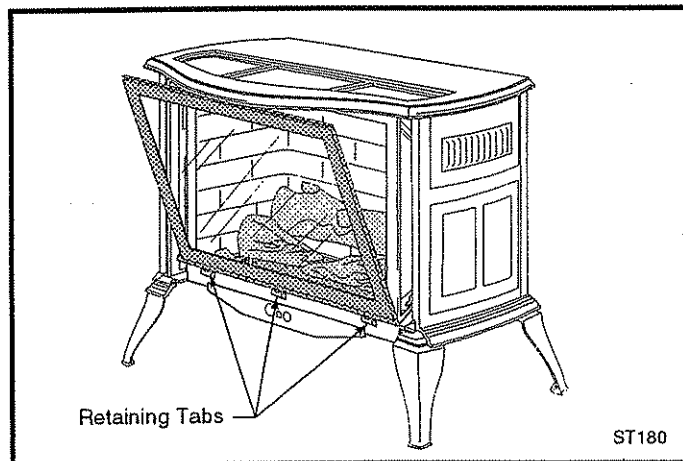

Fig. 50 Engage the lower lip of the glass frame behind the retaining tabs at the bottom of the firebox.
4. Replace the frame on the front of the firebox and secure with the two latches. (Fig. 50)